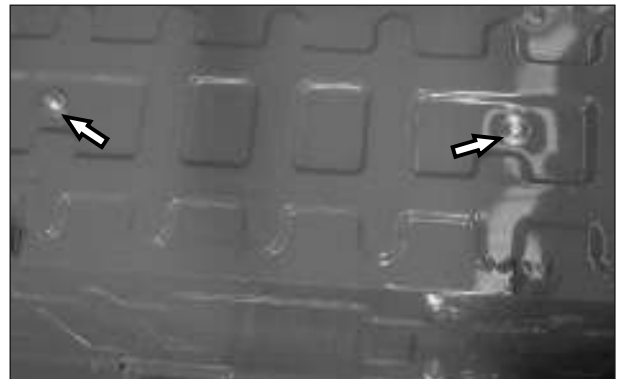

Fig. 4.3
- Loosen and remove 2 nos. Hexagonal bolt (M8x35) along with plain washer and spring washer from passenger cabin. (Fig. 4.3)